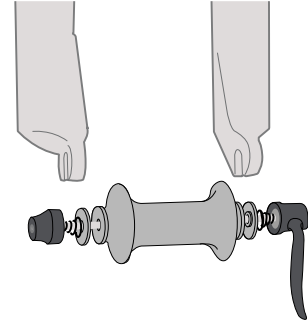

Figure 5. Open quick-release lever
1. Move the lever of the quick-release to the OPEN position (Figure 5).